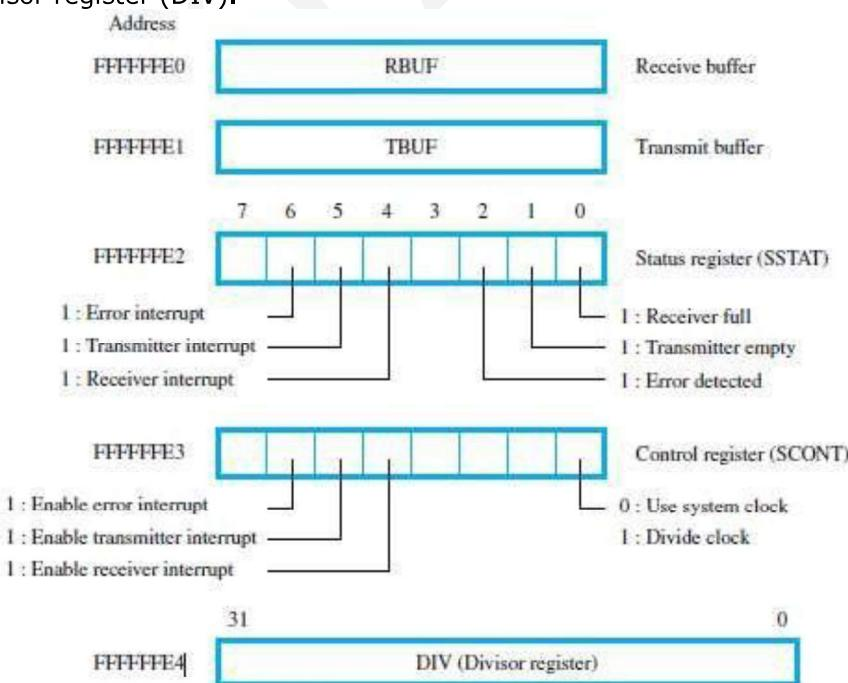

Figure 10.8 Serial interface registers.
- Addressable Registers** are (Figure 10.8):